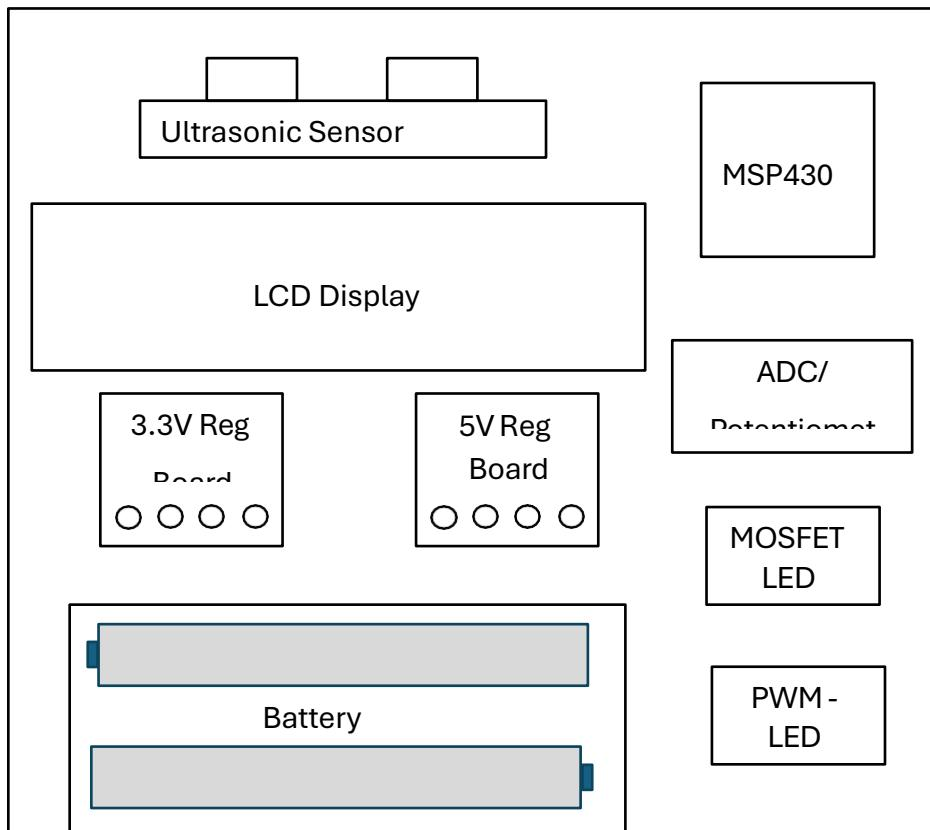

Figure 1: Functional block diagram for the junior design range finder project.
2.0: Goal – In this assignment the student will use the junior design PCB software to develop the PCB for their junior design project PCB (Range Finder). The functional block diagram for the range finder board is shown in Figure 1. The heart of the project is the MSP430G2553 microprocessor used to control a LCD, an ultrasonic sensor, and several LED's. There are several different functions implemented in this project. Developing software to read the analog voltage produced by the potentiometer by the MSP430 analog to digital (ADC) system, the displaying of character (ASCII) data on the LCD display, and reading the ultrasonic sensor to determine position location.